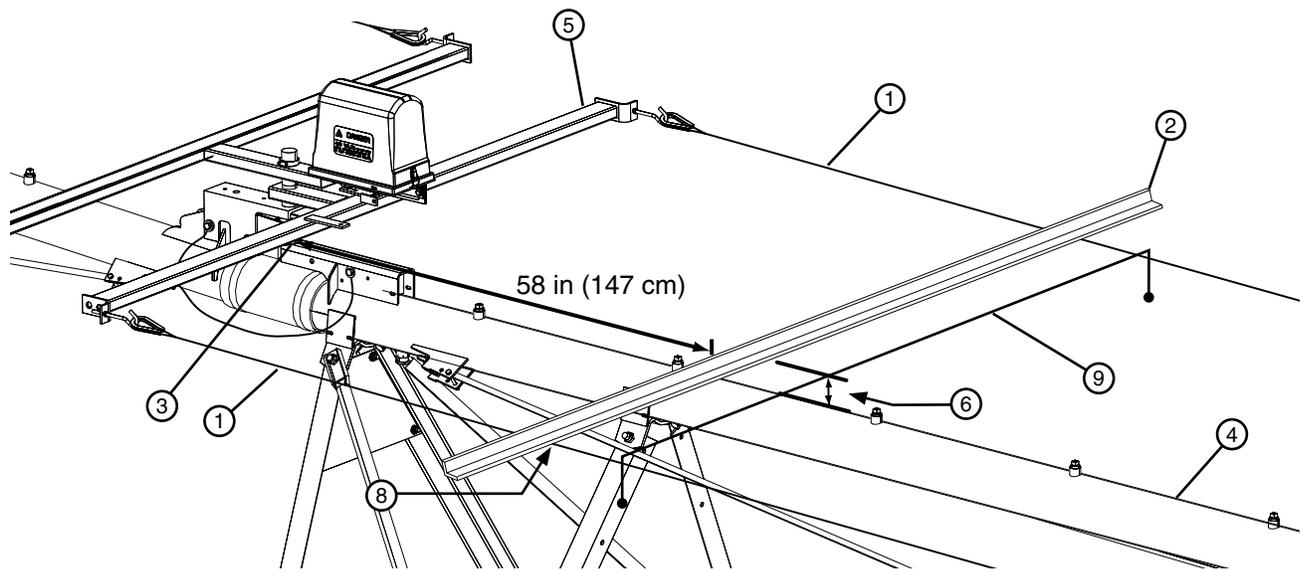

Figure 85-1 1. Alignment Cable 4. Span Pipe 7. Pivot
4. Set alignment cable tension. Use a truss spreader part number 9360055 to check the alignment cable tension. The truss spreader is 115 in (292 cm) long and weighs 23.4 lb (10.6 kg). See Figure 85-1.
5. Position the truss spreader across the alignment cables at approximately 58 in (147 cm) from the drive unit ball and socket joint. See Figure 85-1.
6. Hold and support the truss spreader across the safety cables and measure and record the distance from the truss spreader to the span pipe without the full weight of the truss spreader. This is the ORIGINAL measurement. See Figure 85-1.
7. Lower the truss spreader onto the alignment cables and allow the alignment cables to support the full weight of truss spreader. See Figure 85-1.